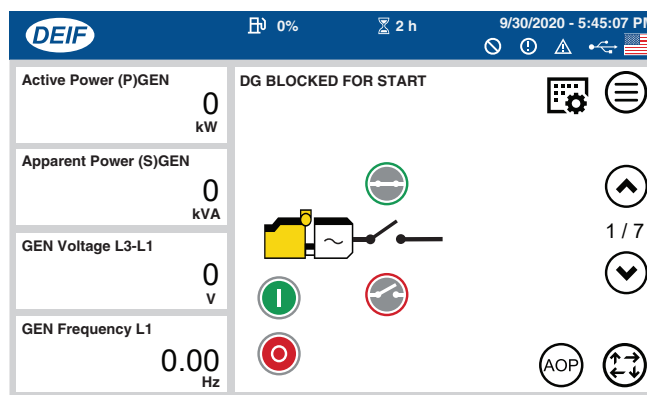

Figure 40. Home Screen (1 of 7)
5. Wait approximately 120 seconds for the control system to boot up, then verify that the **Home screen (1 of 7)** is displayed. See Figure 40.
8. Verify that the **Home screen (1 of 7)** is displayed. See Figure 40.